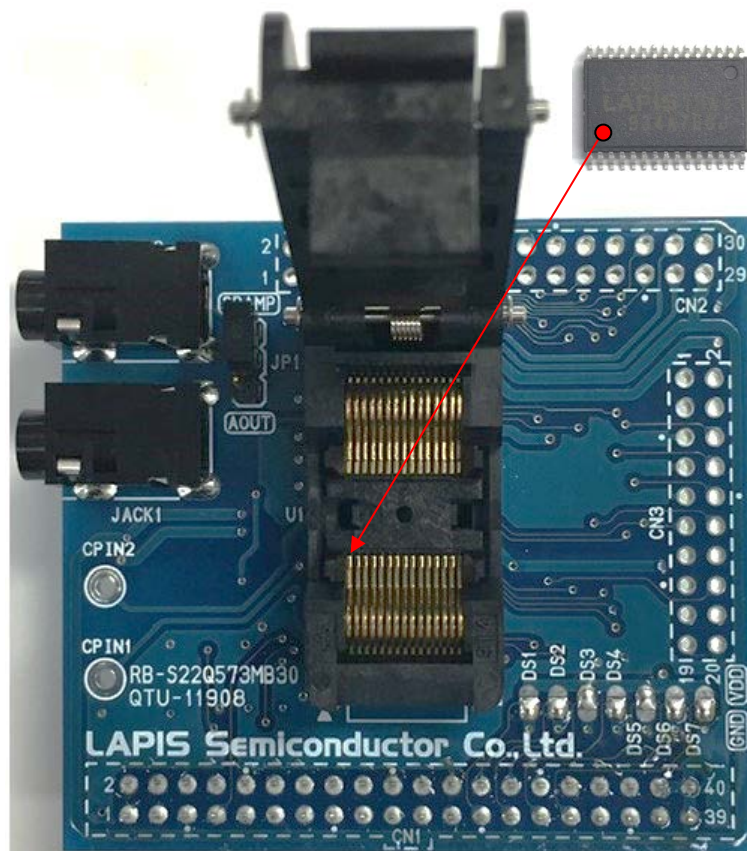

Figure 1 Outline Diagram
- Turn off the power when loading Speech Synthesis LSIs into the RB-S22Q573MB30. Pin 1 is the position of the board silk ▲ at the bottom left with respect to the socket opening. The Figure 1 shows the setting directions of Speech Synthesis LSIs.